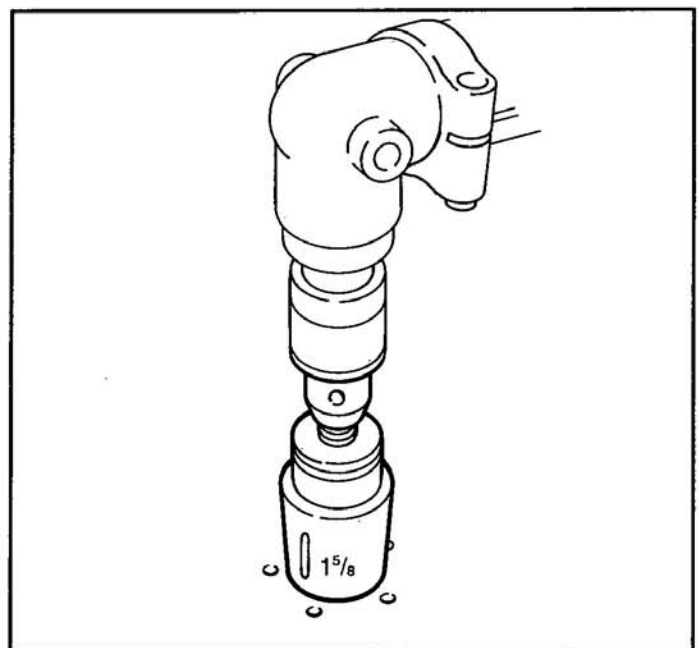

Fig. 5
- Using the center self-tapping screw's hole as a pilot, cut a  $1\text{-}5/8$ " dia. hole in the tank with a hole saw. See Fig. 5. Deburr the hole.